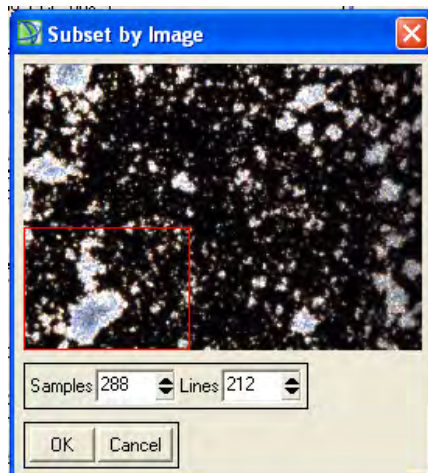

Figure 53. Subset by Image window
2. A Subset by Image window appears. The whole scan is shown in this window. There is also a red box that appears (see Figure 53)